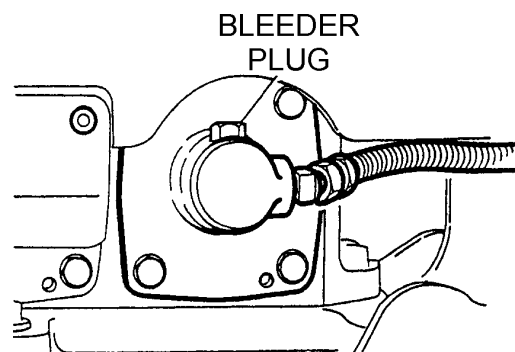

Figure 27. Bleeder Plug
1. Check hydraulic oil in every 100 hours of operation. With handle bar positioned vertically (storage position), remove bleeder plug (Figure 27) off the top of hydraulic pump and check for proper oil level.
5. After filling tank, temporarily install cover. Loosen bleeder plug located at the top of the cylinders on side of vibrator (Figure 27). Air remaining in the circuit will be forced out of the bleeder plug.